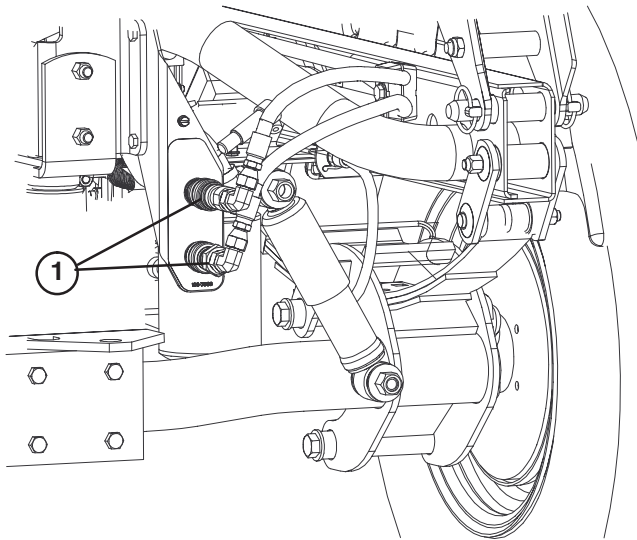

Figure 71
- On both vehicles, disconnect the two quick coupler hoses from the hoses secured to the coupler bracket (Fig. 71).